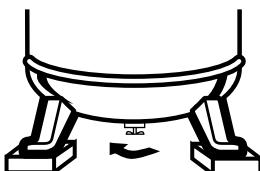

Figure 6 - Opening Drain Cock
1. Open drain cock completely and run the compressor for 60 minutes (see Figure 6)